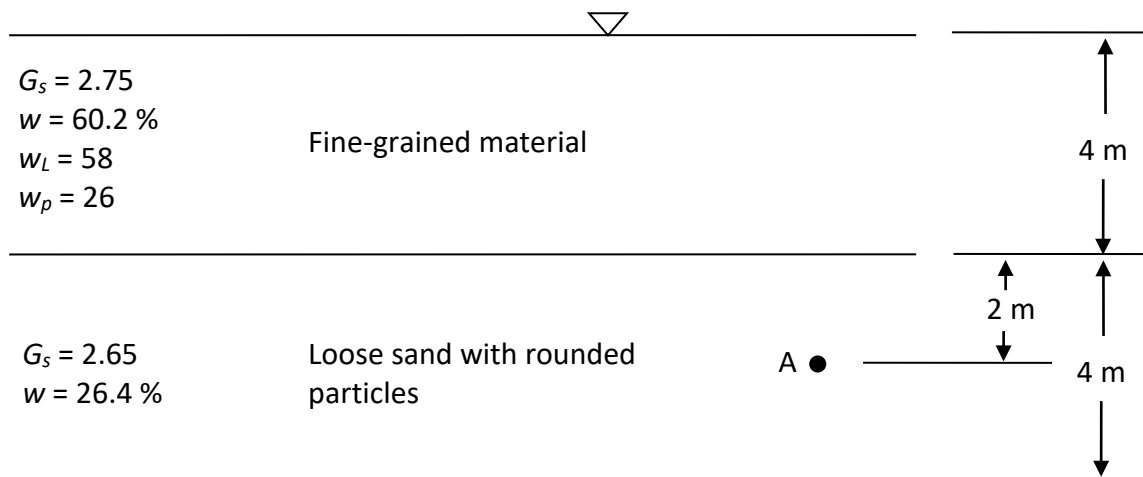

Figure 1: Soil profile for question 1.
The soil profile in Figure 1 shows two layers. The water content (w) and specific gravity of solids (G_s) for each layer are given in Figure 1. Layer 1 is composed of a fine-grained soil with a mass percentage passing the 75 μm sieve close to 100 %. The liquid limit (w_L) and plastic limit (w_p) for layer 1 are given in Figure 1. The water table is located at the ground surface.
- Calculate the vertical effective stress (σ'_v) at the centre of layer 2 (point A in Figure 1) (6 points).
- Calculate the horizontal effective stress (σ'_h) at point A in Figure 1 assuming that layer 2 is a uniform loose sand with rounded particles (4 points).